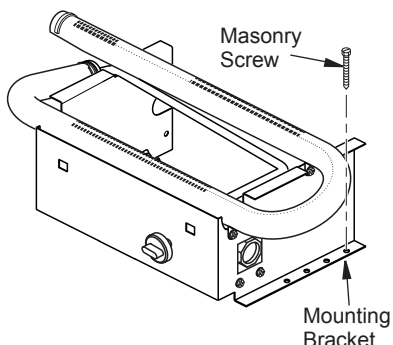

Figure 12 - Attaching Base Assembly to Fireplace Floor
1. Apply pipe joint sealant lightly to male threads of fitting to be threaded into gas regulator. Connect approved flexible gas hose to gas regulator of heater (see Figure 12, page 13).
7. Mark screw locations through holes in mounting brackets (see Figure 12). If installing in a brick-bottom fireplace, mark screw locations in mortar joint of bricks.
10. Attach base assembly to fireplace floor using two masonry screws (in hardware package) (see Figure 12).